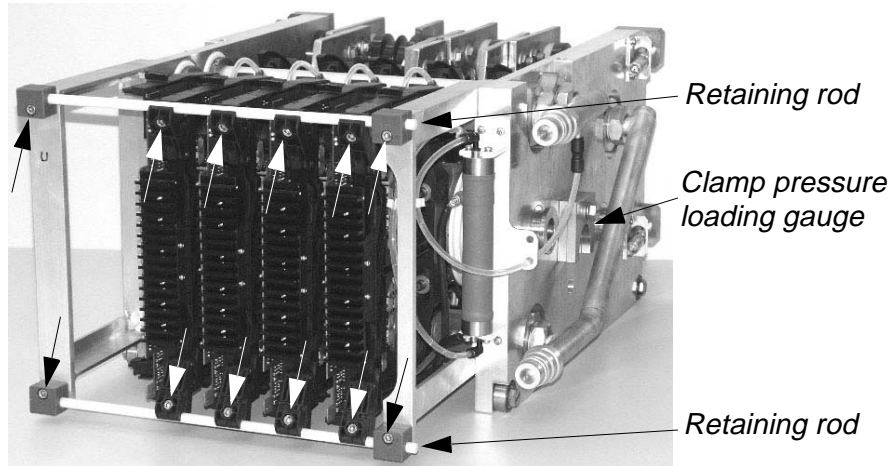

Figure 5-1 Phase Module
- 2 Loosen the hexagon fastening bolts (12) (see arrows in *Figure 5-1*) of the RC-IGCTs and pull out the two retaining rods.
- 3 Slide the clamp pressure loading gauge (attached to the side of the phase module, see *Figure 5-1*) under the clamp ring of the pressure adjusting bolt and loosen the bolt to release the clamp pressure of the stack.